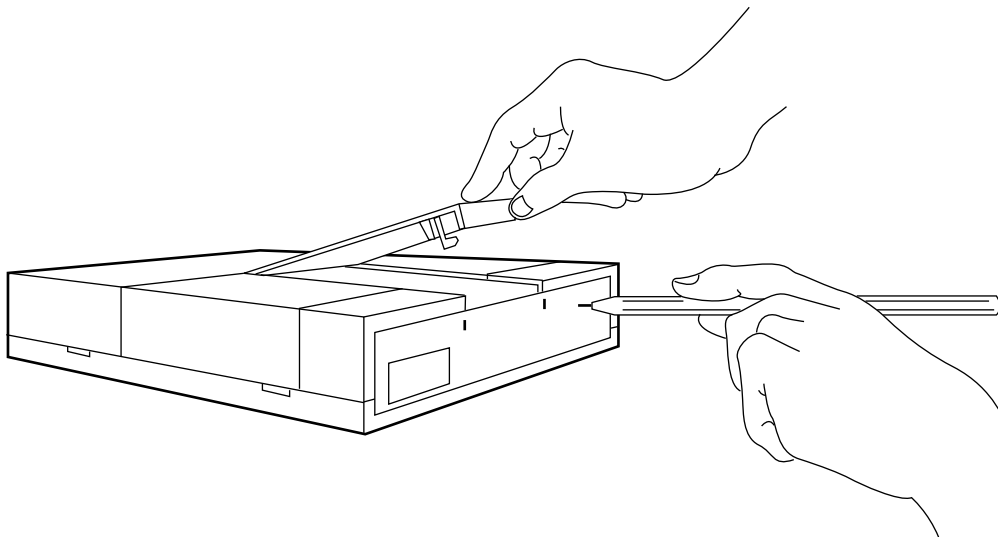

FIGURE 8-3. Lifting the Door
3. Open the door on the 7500 data module as follows. See Figure 8-3.
- Lift off the door and set it aside. See Figure 8-3 earlier in this section.